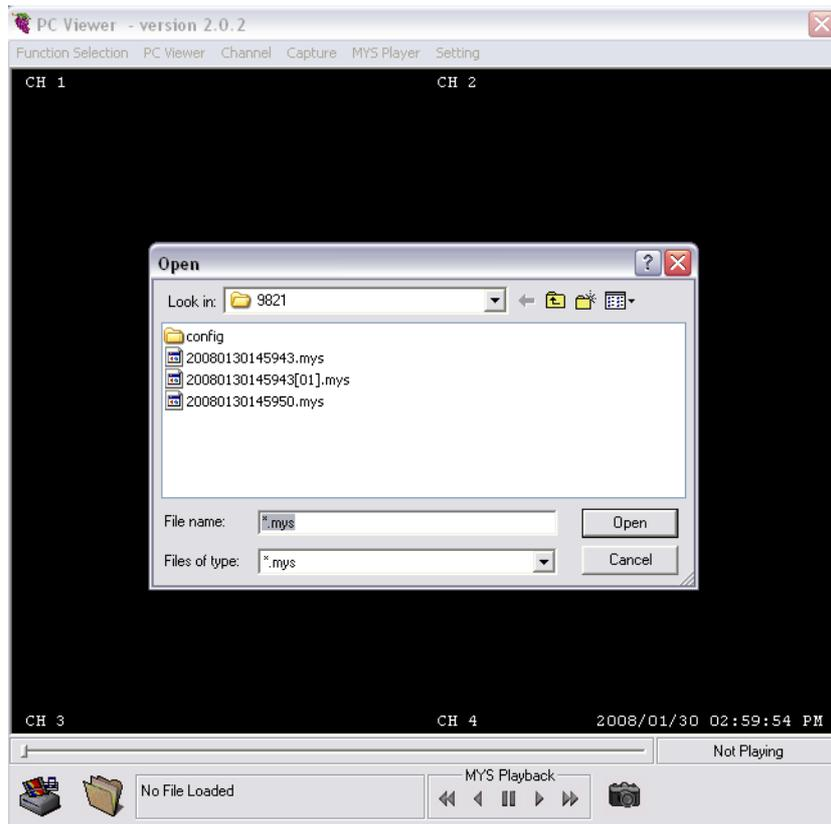

Figure 5
-  : Click this button to playback recorded materials (stored on PC); graphic show by “Figure 5” will be displayed. Please select the file to playback, press “open” to playback. This button function is similar to “File Player” function.